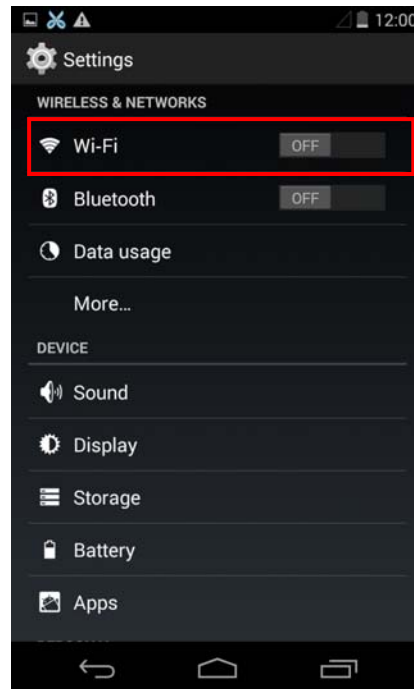

Figure 19
2.2 Find out the “WIRELESS & NETWORKS” in “Settings” interface, then click “Wi-Fi”, as shown in Figure 19.